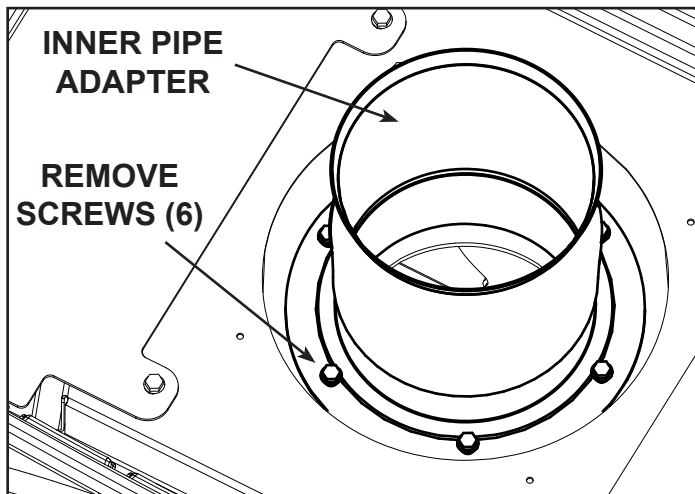

Figure 6.3
3. Remove the inner pipe adapter by removing (6) screws, Figure 6.3. Remove gasket and discard. Replace six screws into holes and tighten.